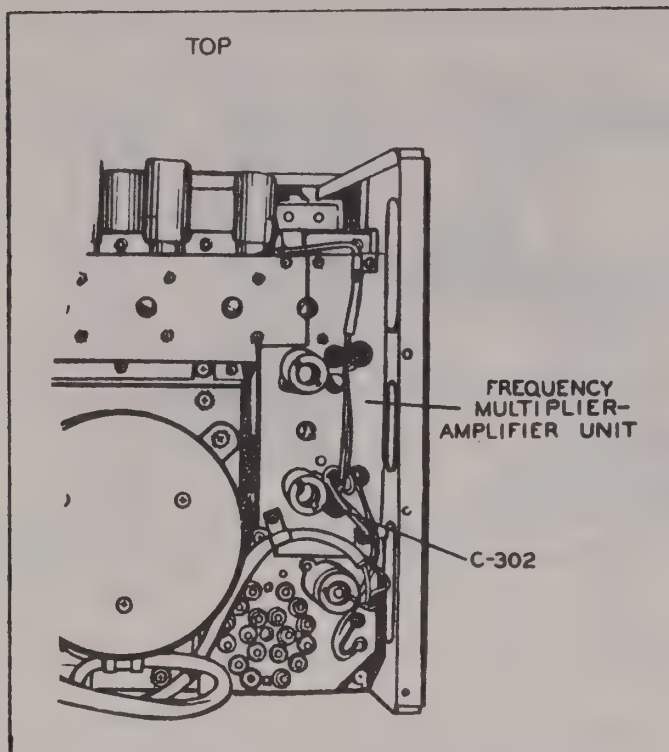

Figure 3-2 Radio Transmitter T-217A/GR, Partial Rear View, Cover Removed
(25) Disconnect the VTVM DC probe from J-402 and connect it to capacitor C-302 on the Frequency Multiplier-Amplifier Unit. See Figure 3-2.
(26) Set the VTVM RANGE switch to the 2 V position and zero the meter.
(27) Leave the three numbered CHANNEL switches at 229.9 mc.
(28) Set the VOICE-MCW CARRIER ON switch on the modulator to the MCW CARRIER ON position. The VTVM indication should be less than 0.4 volts. If the VTVM reading is less than 0.4 volts, alignment is indicated.